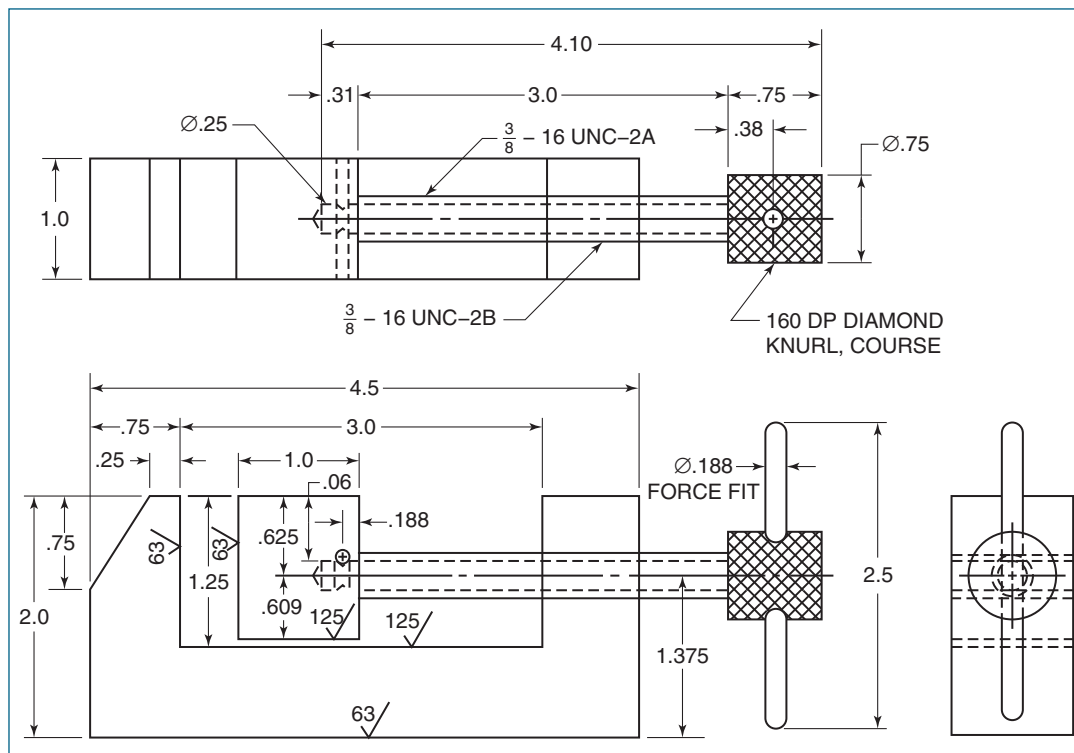

Figure 1-7 Multiview drawing of a machinist vise.
- **Multiview drawings** are two-dimensional (2D) views of the object drawn using orthographic projection (See Chapter 8). The complete shape of the item with its dimensions and details is shown with multiview drawings (**Figure 1-7**).